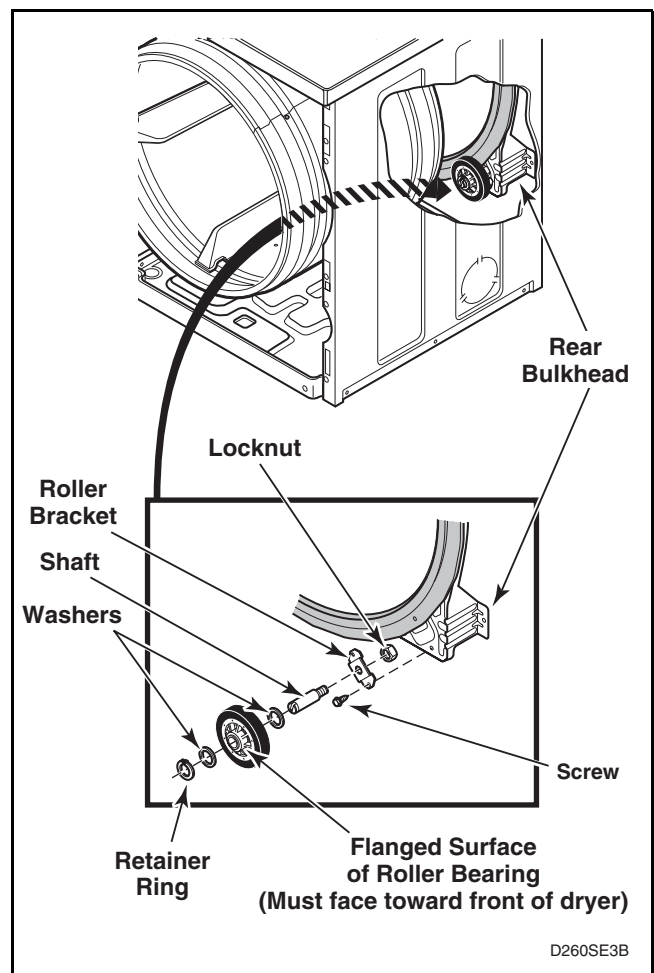

Figure 54
- Pull cylinder forward allowing rear of cylinder to drop down exposing rollers. Refer to *Figure 54*.
- Refer to *Figure 54* for removal of roller from bulkhead.